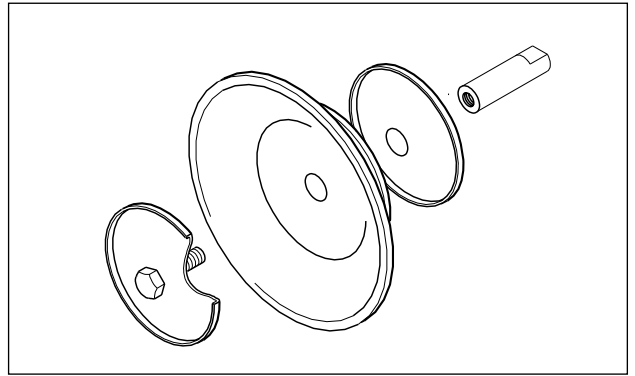

Fig. 13: Assembly of standard diaphragm with inner and outer plate
- Pumps DL 40, 50 and 80 with PTFE diaphragms have thicker internal diaphragm plates to reduce and displace the stroke. For subsequent conversion to PTFE diaphragm, the corresponding plates must be used (Fig. 13).